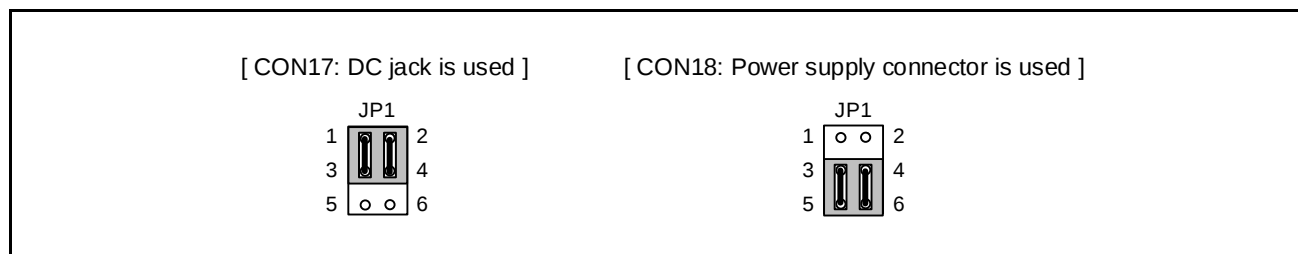

Figure 1.3.2 Setting Options for Power Supply Routing Selector Jumper (JP1)
Figure 1.3.2 shows setting options for power supply routing selector jumper (JP1). Setting shall be made according to power supply to use.
2. On the jumper (JP1), set the short circuit socket so that pins 1-3 and 2-4 are shorted (See Figure 1.3.2).
2. On the jumper (JP1), set the short circuit socket so that pins 3-5 and 4-6 are shorted (See Figure 1.3.2).